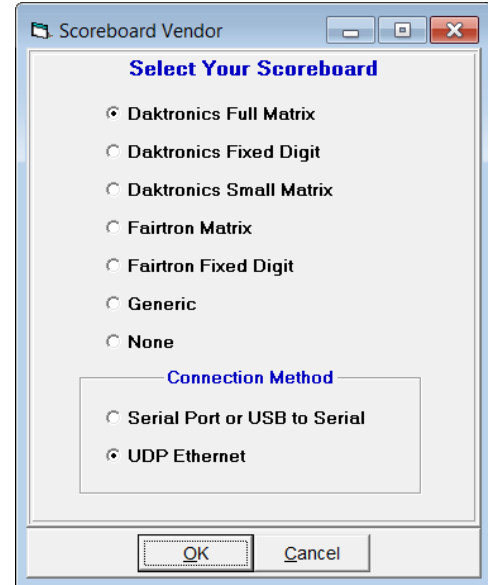

Figure 28: Scoreboard Vendor Selection
3. Go to **Interfaces > Set-up > Scoreboard** (Figure 28).